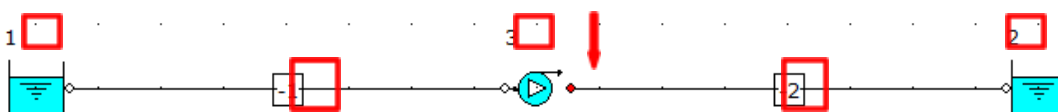
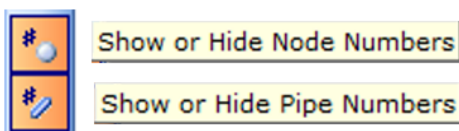

Figure 8: Hydraulic Model.
Figure 9: Show or Hide Node/Pipe Numbers buttons.
Note: The **RED** dot on the compressor (Figure 8) indicates the discharge side.
- At this stage, we will notice that the software automatically assigns a unique *User Number* (reference number) to each node placed on the flowsheet. All boundaries and fittings have positive *User Numbers* whereas all pipes have negative *User Numbers*. In Figure 8, we can see that the inlet boundary, outlet boundary, and compressor are assigned with *User Numbers* “1”, “2”, and “3”, respectively. The suction and discharge pipes are assigned with *User Numbers* “-1” & “-2”, respectively. Note, if these reference values have not appeared automatically, they may be toggled off. You can toggle these back on by selecting the buttons to the left of the flowsheet titled “Show or Hide Node Numbers” and “Show or Hide Pipe Numbers”. The buttons appear as follows (Figure 9):